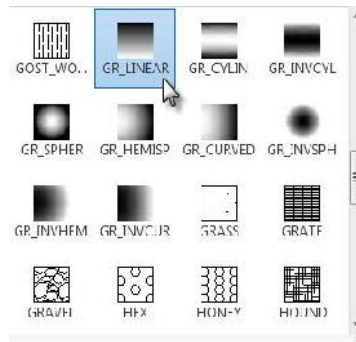

FIGURE 11.15: Selecting the linear gradient type
11. Expand the Pattern panel, and choose GR_LINEAR, as shown in Figure 11.15.